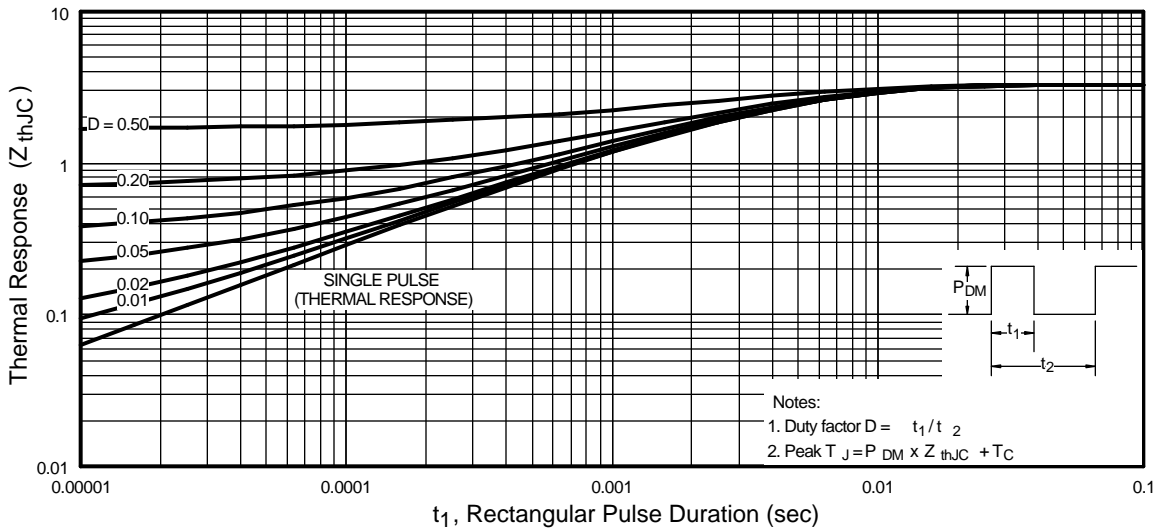

Fig 11. Maximum Effective Transient Thermal Impedance, Junction-to-Case
① Repetitive rating; pulse width limited by max. junction temperature. (See fig. 11)
② Starting T_J = 25°C, L = 2.8mH